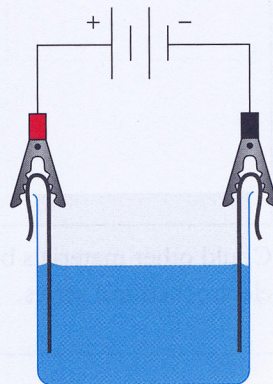

FIGURE 1 Experimental set-up of an electroplating cell
- 4 Connect the cathode to the negative terminal of the power supply and the anode to the positive terminal, using the wires with crocodile clips (see Figure 1).